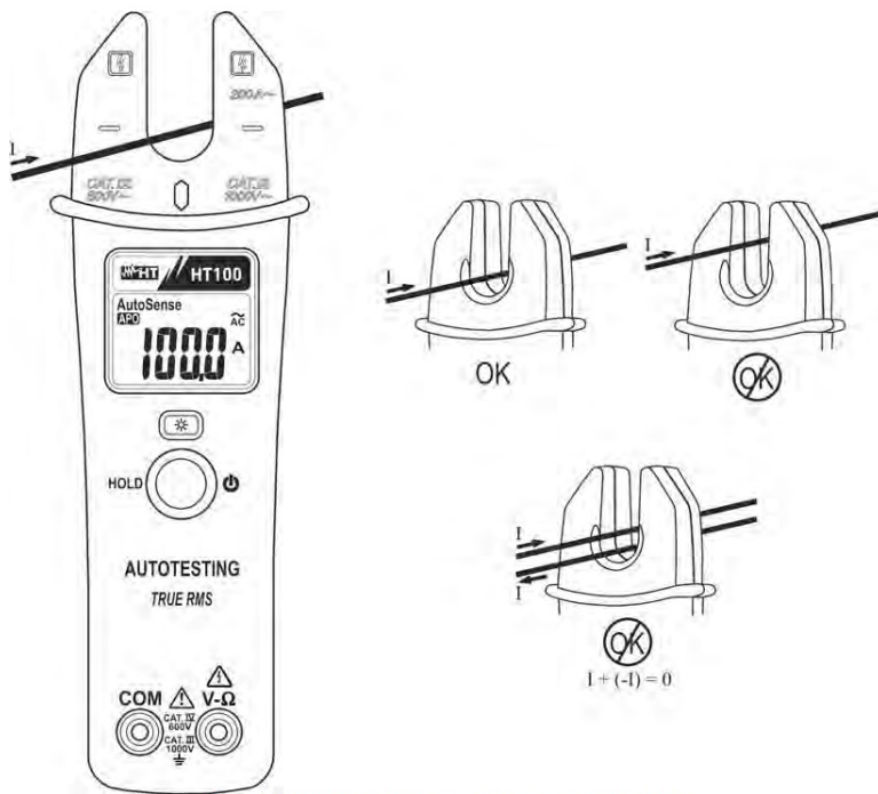

Fig. 7: Taking AC current measurement
1. Put the conductor to be tested inside to the “open” clamp jaw (see Fig. 7) considering the alignment marks (see § 4.1.2). The current value is shown at display.